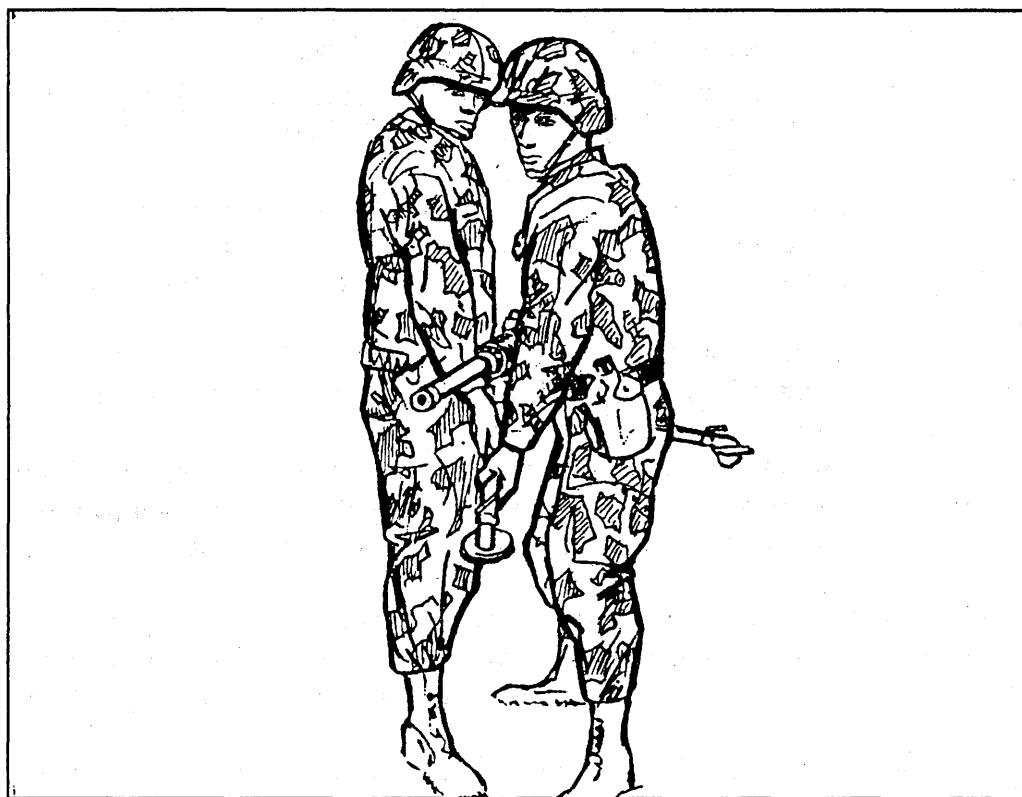

Figure 5-26. Two-man carry.
(2) *Two-man carry.* With the gunner on the right and assistant gunner on the left, each grasps the front leg with his forward hand and a trail leg with the other hand, just above the traversing bar (Figure 5-26).